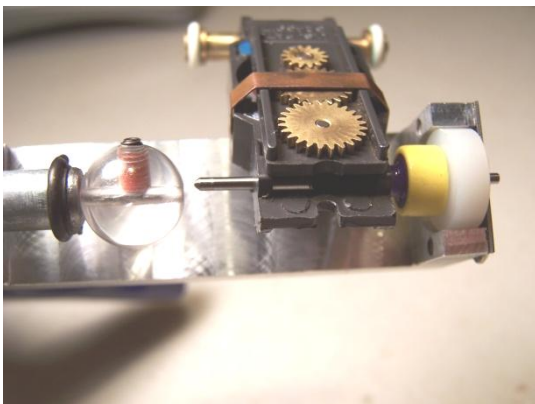
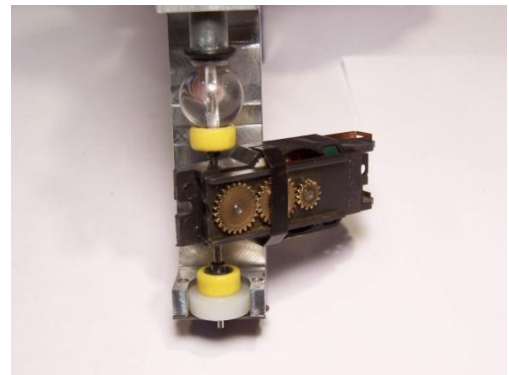

Fig 5.
Fig 6.
- 5 Install the axel and wheel through the crown gear and into the chassis of the car. Use the tool to adjust how far the axel is pushed into the hub. See Fig 5.
- 6 Place car into fixture and install the 2nd wheel onto the axel as shown using the ball to center the tire for perfect alignment. See Fig 6.
- 6- See fig 5 and Fig. 6 to install the tires